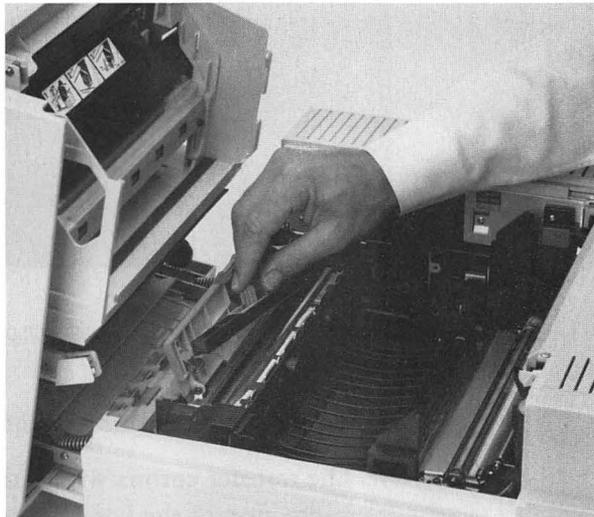

Figure 6-13 Installing the new cleaning pad
6. Insert the new cleaning pad into the fixing roller assembly. (See Figure 6-13.) Then close the green cover.